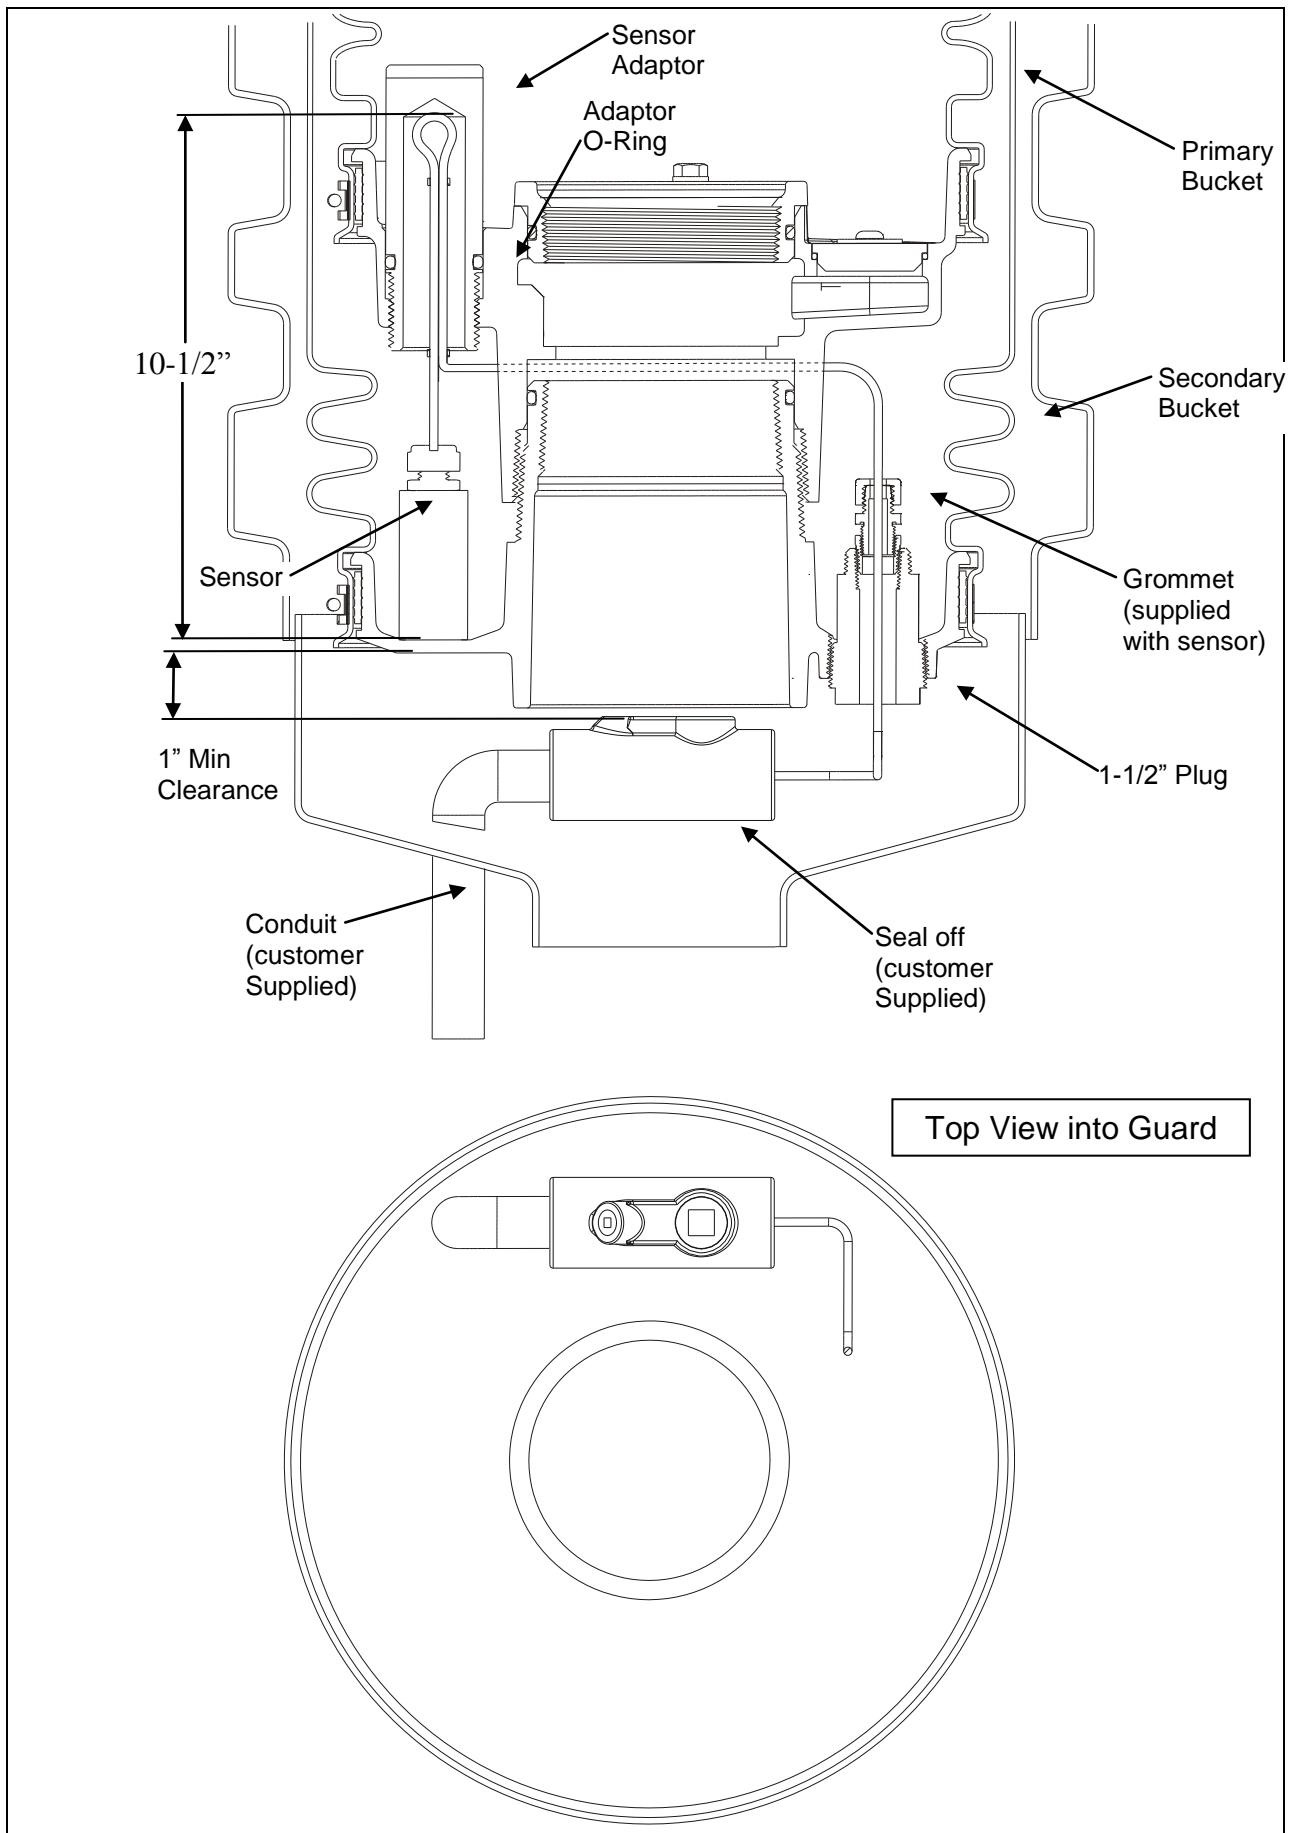

Figure 1
Step 1: (See Figures 1 & 4)
Step 4: (See Figure 1)
Verify that the factory installed loop in the sensor wire is 10-1/2" tall from the bottom of the sensor to the top of the loop as shown in Figure 1. Cut new sensor wire 2 feet from the sensor loop.